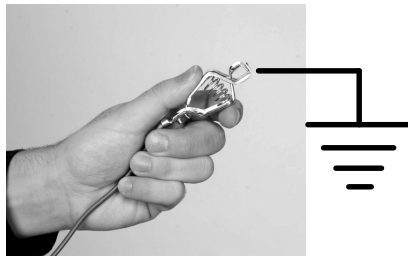

Figure 3-15 System Ground Connection
**Mobile Systems:** See Figure 3-15. Connect the ground cable attached to the controller ground stud to a true earth ground.